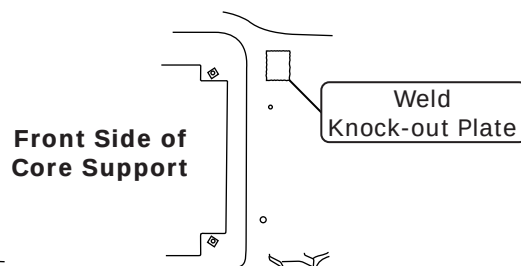

Figure 2a
1. Weld the knock-out plate to the core support as shown in Figure 2a, below.